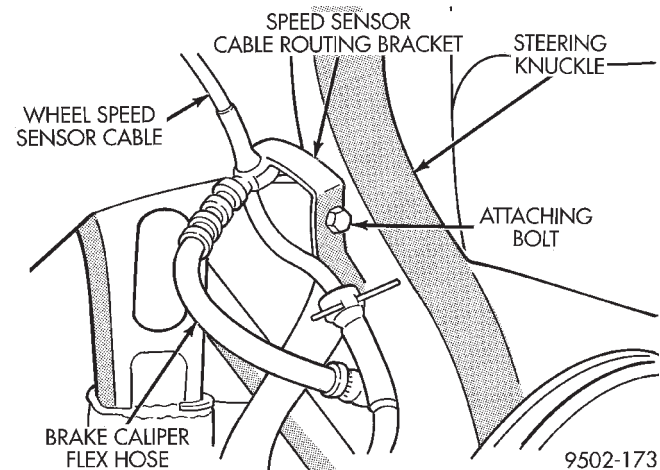

Fig. 9 Wheel Speed Sensor Cable Routing Bracket
(11) If equipped with antilock brakes, remove the speed sensor cable routing bracket from the steering knuckle (Fig. 9).